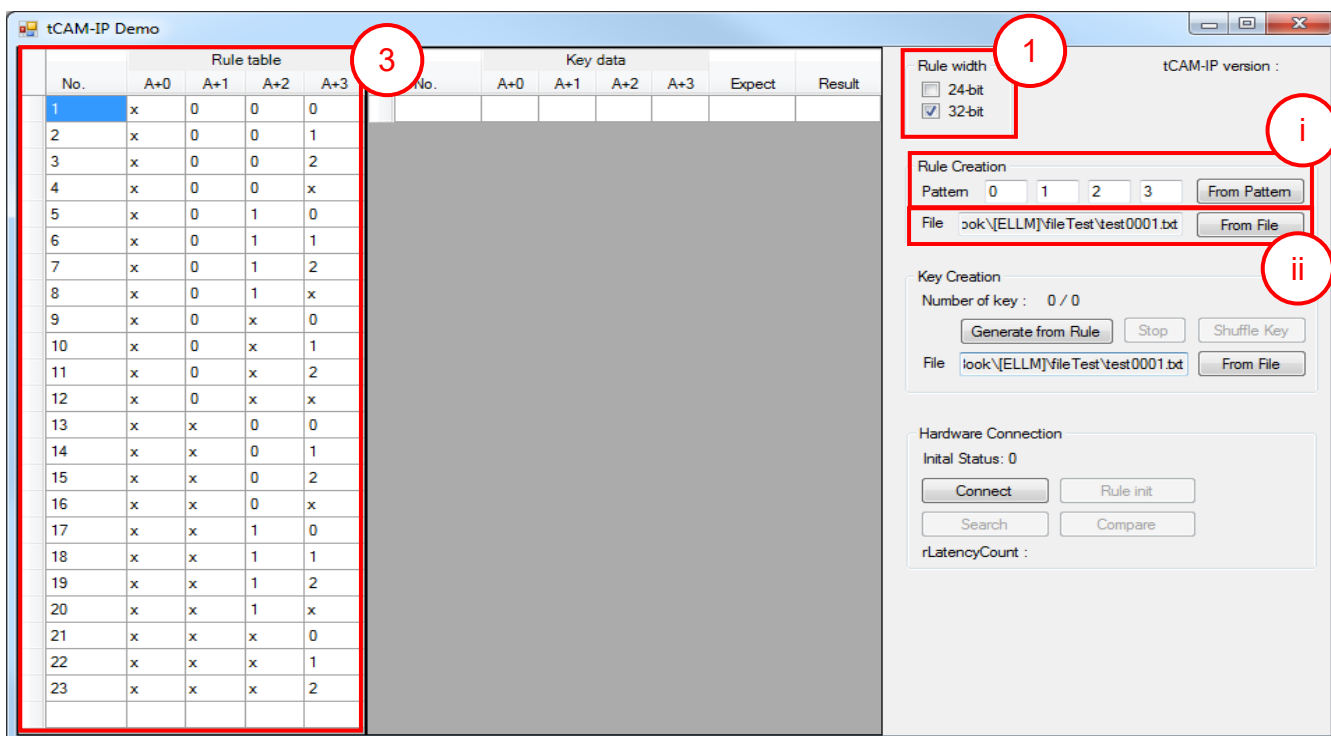

Figure 5-4 Rule creation process
To create the rule table, the step is shown as in Figure 5-4.
- 3) When rule is created, rule data show in rule table as shown in Figure 5-4.